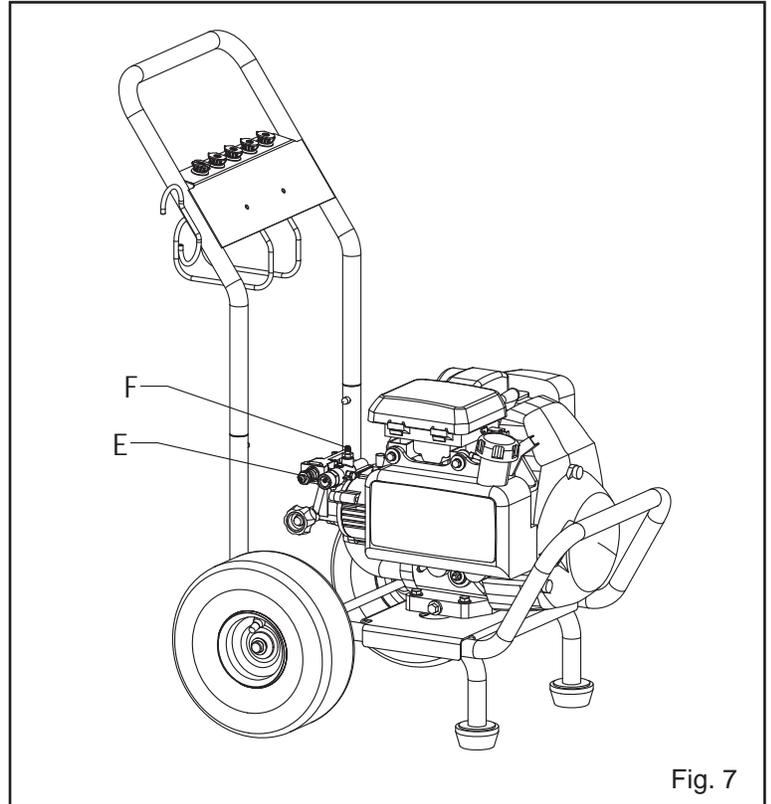

Fig. 7
1. Make sure the chemical hose is pressed onto the barbed fitting (F) located near high-pressure hose (E). (Fig. 7)